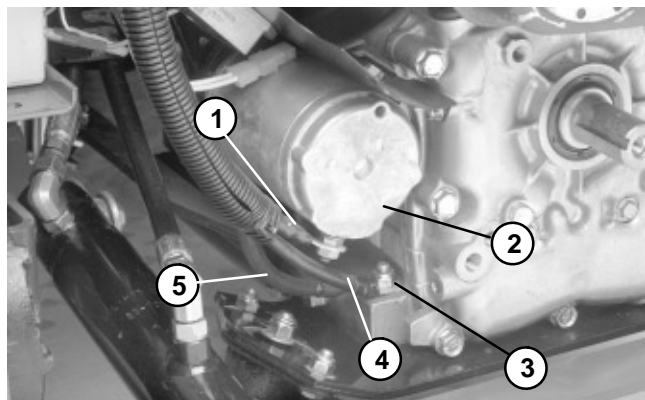

Figure 47
10. Disconnect red positive cable cable (solenoid) from the starter (Fig. 47).
11. Remove lock nut and cap screw securing black ground wire and black battery cable (negative) to the engine block. Pull cable and harness clear of the engine (Fig. 47).
D. Insert cap screw through engine base and engine block. Connect black ground wire and black battery cable (negative) to the cap screw. Screw lock nut onto the cap screw (Fig. 47).
2. Connect red positive cable cable (solenoid) to the starter (Fig. 47).